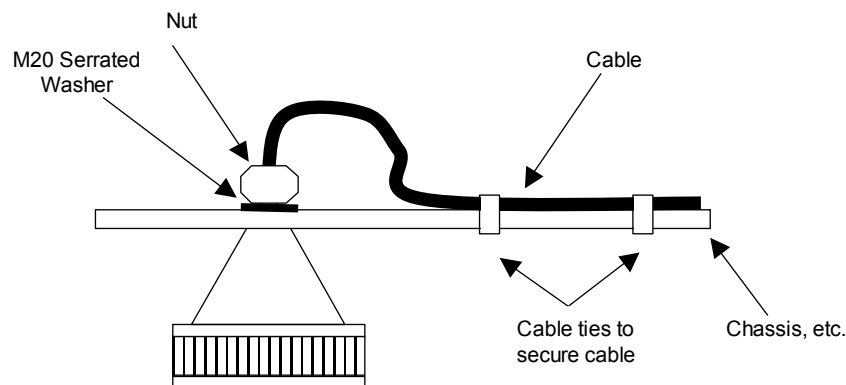

Figure 5.2 TRANSMITTER mounting details
4. Route the TRANSMITTER cable to a convenient point behind the instrument panel of the vehicle, where it can be attached to the code selector switch (if one is to be used) and to the vehicle's power source. Ensure that the blue, negative, lead is securely earthed to the vehicle bodywork by first removing all paint from the area and using a serrated washer in conjunction with the lug securing screw. Refer to figure 5.2 for TRANSMITTER mounting details.